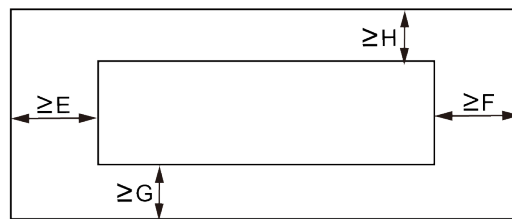

Fig.3.2.3
- (8) Pipe connection space shall be reserved around the unit, as shown in Fig.3.2.3.
- (9) Keep the unit away from heating source, inflammable gas or smoke.
- (10) Indoor unit, outdoor unit, power cord and electric wire should stay at least 1m from the TV set and radio. Otherwise, these electrical appliances may have image interference and noise. (Even if the distance is 1m, when there is strong electric wave, noise may still occur.)